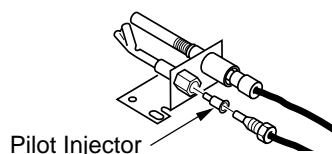

Figure 15 - Installing Propane/LP Pilot Orifice
1. Gently loosen and remove the pilot line connection from the bracket (see Figure 15).
2. Replace the injector (see Figure 15) with the propane/LP pilot injector with the red stripe.